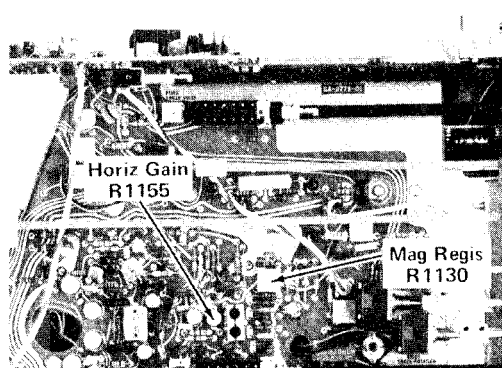

Fig. 5-24. Location of Horizontal Gain and Magnifier Registration adjustments.
d. ADJUST-Horizontal Gain adjustment, R1155 (see Fig. 5-24), for 1 time marker/division".
e. ADJUST-Magnifier Registration adjustment, R1130 (see Fig. 5-24), to position the second time marker to the center vertical graticule line.